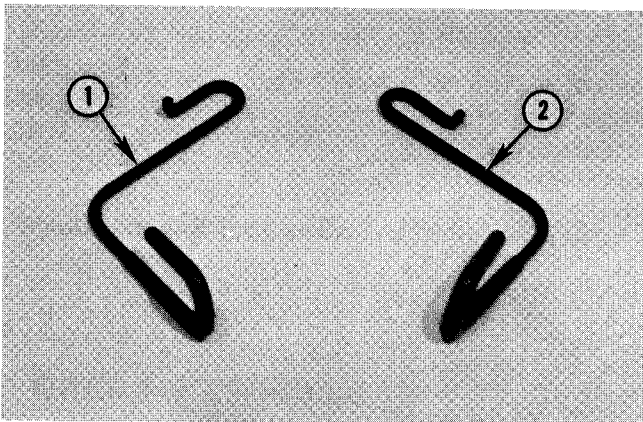

Fig. 35 — Front Retainer Spring
3. Assemble four link retainer springs together as shown in Figs. 35 and 36 and note that all four are different.